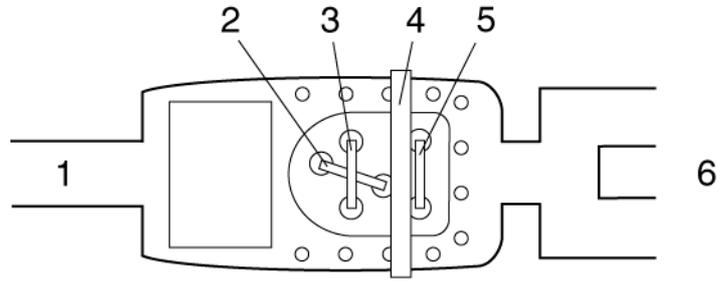

Figure 7 “Alveon” flow sensor layout
The “Alveon” flow sensor is based on the principle of a filament anemometer (Figure 7). In conjunction with the Zeus anaesthetic workstation, the measuring wire (2) is used for compensation of the breathing gas, the measuring wire (3) for “flow measurement” and the measuring wire (5) with the shading (4) for detecting the direction of flow.